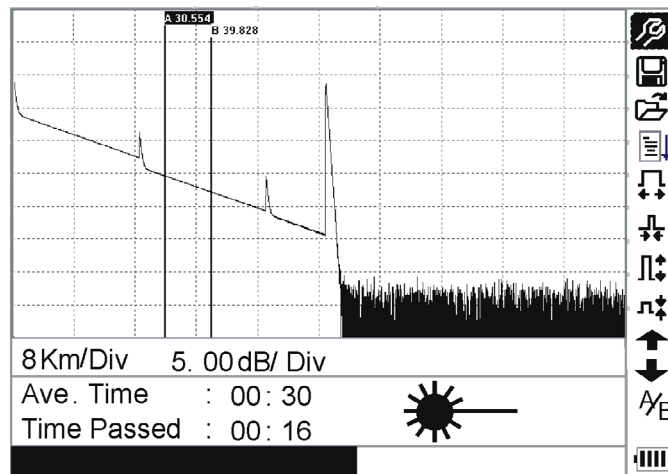

Figure 35.- Measuring
- 2 Measure: press [] to start measurement, and the interface is as shown in figures 35 and 36.